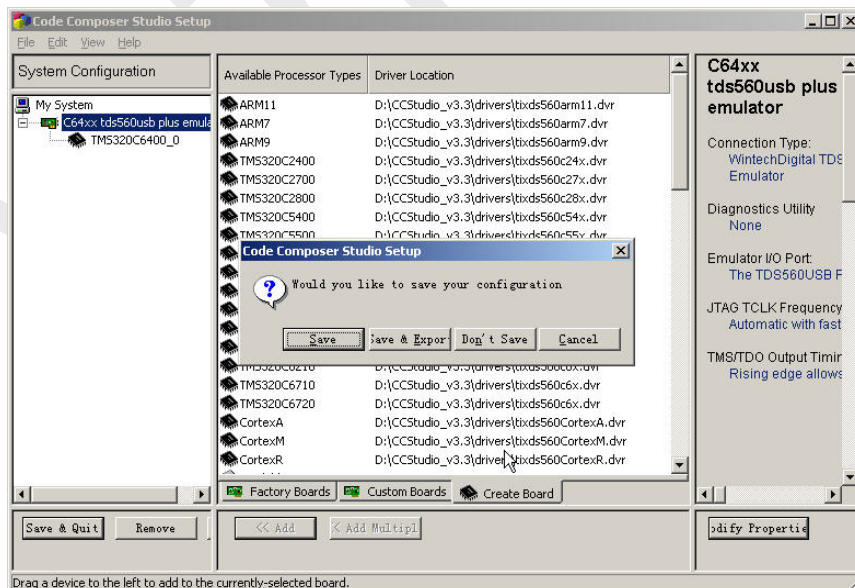

Figure C-8
10. To save the configuration and exit the “Code Composer Studio Setup” window, click on “File” and then “Exit”. (Figure C-8)